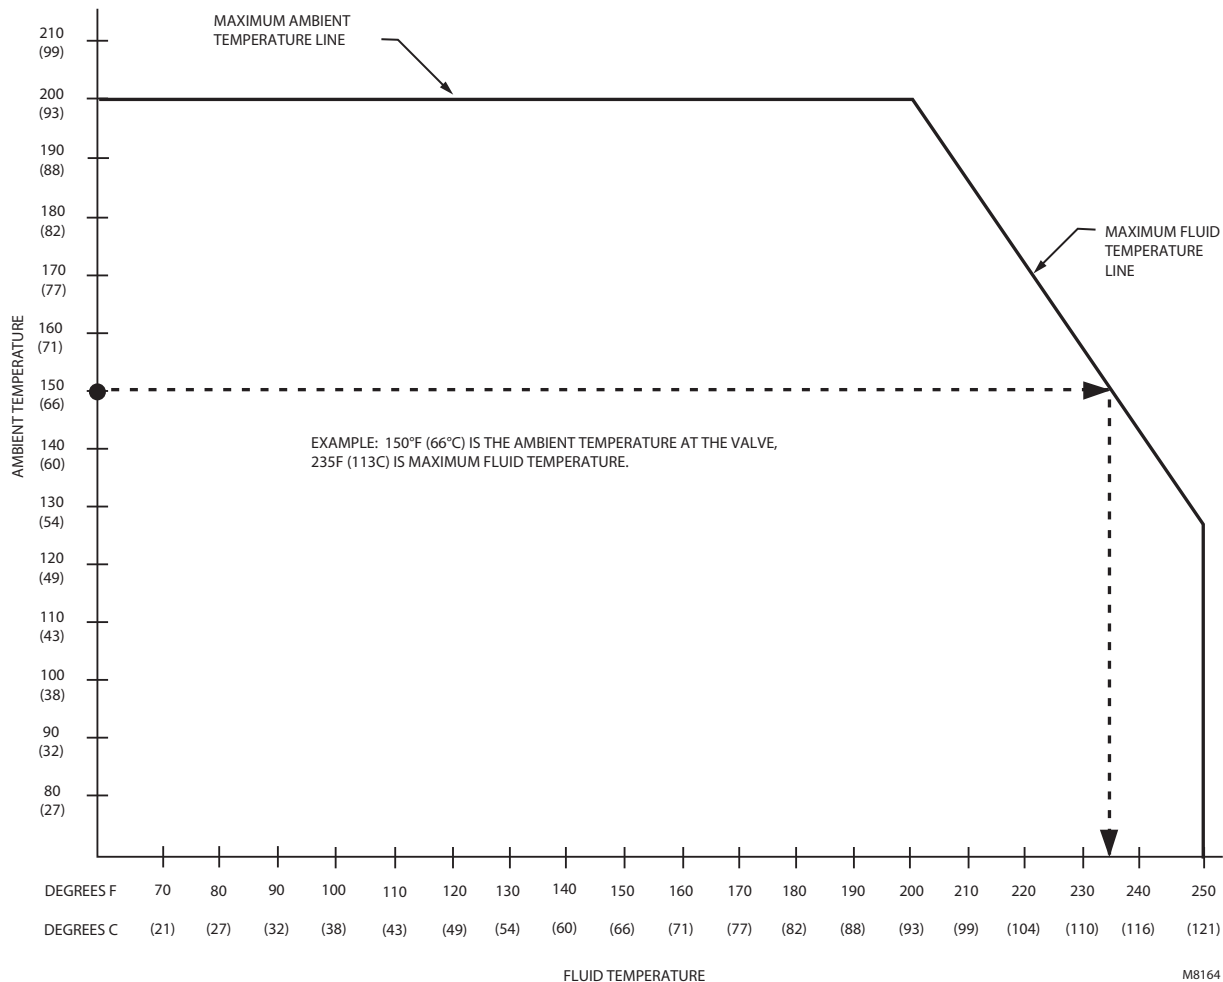

Fig. 2. Maximum temperature characteristics of valves with Class F motors.
The maximum operating temperature for motorized valves depends on the maximum ambient temperature at the valve location, and on the maximum fluid temperature. Using the graph in Fig. 2, find the maximum valve operating temperature as follows:
3. Draw a line from that point down to the fluid temperature scale to find the maximum operating temperature. (Note the example shown by the dashed line in Fig. 2.)